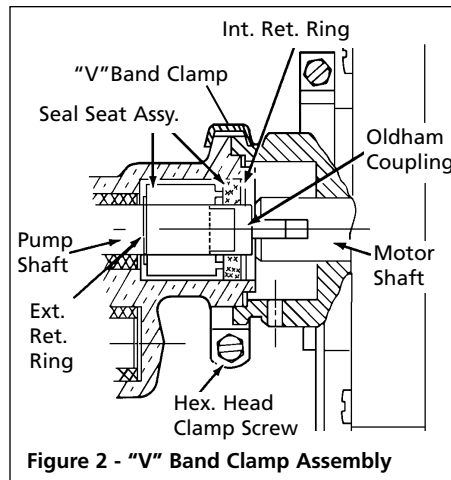

Figure 2 - "V" Band Clamp Assembly
PUMP HEADS (NO MOTOR) – Close-coupled gear pump heads are designed to direct couple to carbonator pump motors (See NEMA Spec. MGI-18.739, Dimensions of Carbonator Motor mounting). The face of this gear pump has been machined to match the carbonator motor face. Pump and motor held together with a stainless steel beveled "V" band clamp. Coupling of shafts is done by mating the carbonator motor's slot with the pump's slot using the Oldham coupling (See Figure 2). This positive displacement characteristic offers a wide range of applications.
1. Refer to Figures 2 and 3.
5. Slip the "V" band clamp over the pump and motor halves (See Figure 2) and tighten the hex head clamp screw to hold the assembly together.